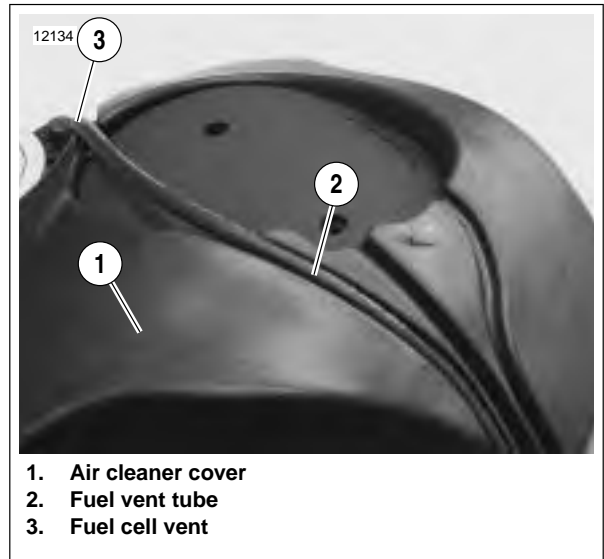

Figure 4-117. Air Cover (XB9SX “Translucid” model)
2. See Figure 4-117. Remove fuel vent tube (2) from fuel cell vent (3) and groove on top of air cleaner cover (1).